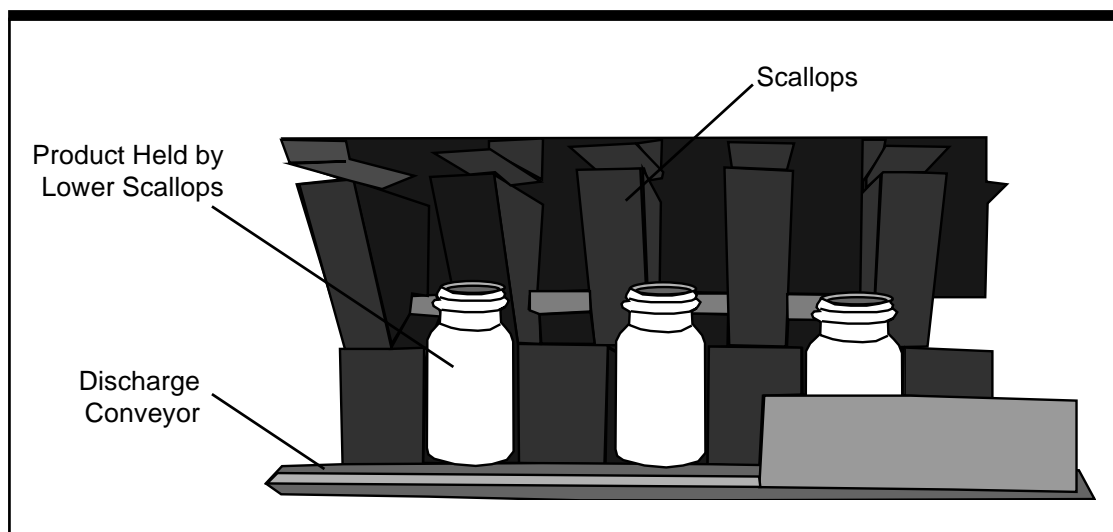

Figure 1-4. Exit in the Scallop Feeder
9	Figure 1-4. FS-50-RD Feeder Specifications
Step 3—The FS-40/50-RD Feeder Delivers Your Parts. After the product has been properly qualified, it is guided to the drop zone where the product is oriented for discharge (see Figure 1-4). Each part is guided by the lower scallops, which hold the product in its final orientation, onto the conveyor. The discharge conveyor then moves product out of the FS-40-RD or FS-50-RD, in proper orientation, for delivery to downstream operations.